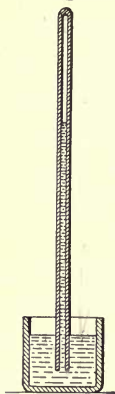

FIG. 53.
**87. Principle of the Barometer.**—Gases, though generally lighter than air, all have a definite weight. This weight depends upon the volume of the gas and the pressure exerted, as may be proved by means of an instrument called a barometer (Fig. 53). The principle on which the barometer is based may be explained in the following manner.